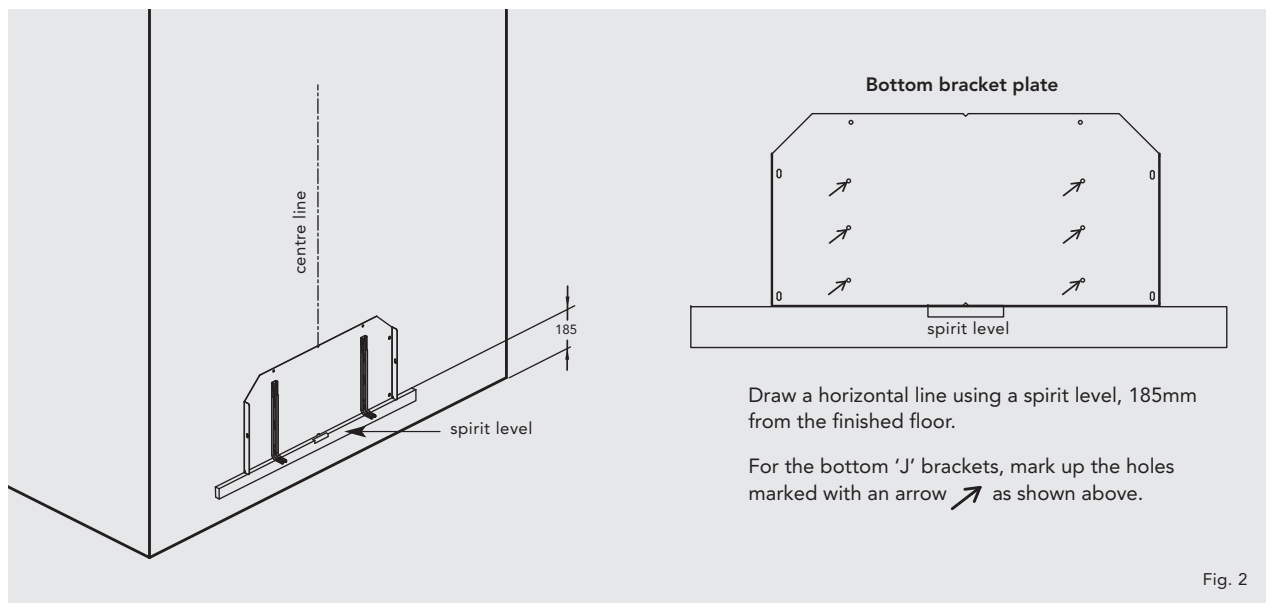

Fig. 2
- Using a spirit level, draw a vertical line in the centre of the intended final position of the LST (see Fig. 2).
- Measure and mark 185mm from the finished floor on the centred line (see Fig. 2).
- Using one of the bracket plates and the 2 x "J" brackets, fix the bottom brackets as shown in Fig. 2 (the bracket plates are pre-drilled so horizontal measuring is not required - see Section 8, Appendix A for dimensions).